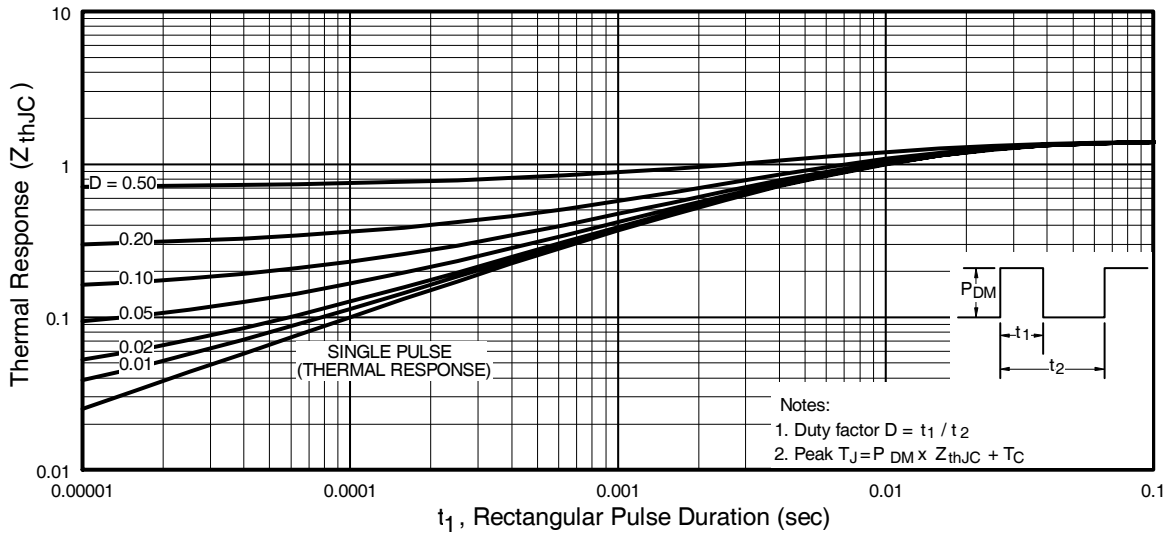

Fig 11. Maximum Effective Transient Thermal Impedance, Junction-to-Case
- ⓐ Repetitive rating; pulse width limited by max. junction temperature. (See fig. 11)